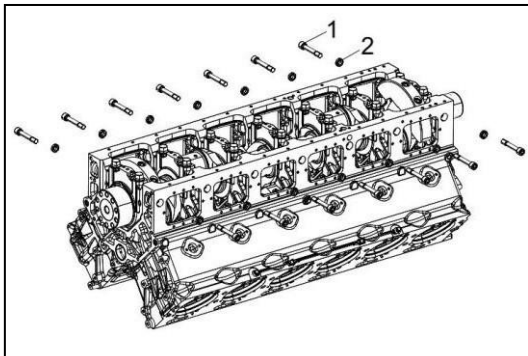

Figure 132
8. Apply a light coat of clean engine oil to the bearing cap main bolts (Figure 132, 2) and auxiliary bolts (Figure 132, 1) with washer (Figure 132, 2).